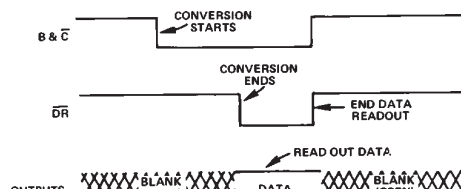
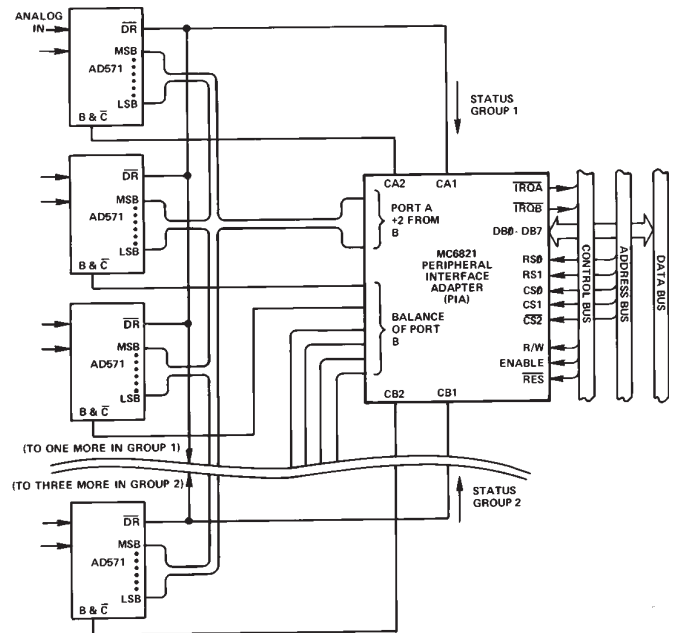

Figure 12. Multiplex Mode
Figure 15. Multiplexing 8 AD571s Using Single PIA for  $\mu$ P Interface. No Other Logic Required (6800 Control Structure)
**Multiplex Mode**—In this mode the outputs are blanked except when the device is selected for conversion and readout; this timing is shown in Figure 12. A typical AD571 multiplexing application is shown in Figure 15.
An improved technique for interfacing to a  $\mu$ P bus involves the use of special peripheral interfacing circuits (or I/O devices), such as the MC6821 Peripheral Interface Adapter (PIA). Shown in Figure 15 is a straightforward application of a PIA to multiplex up to 8 AD571 circuits. The AD571 has 3-state outputs,